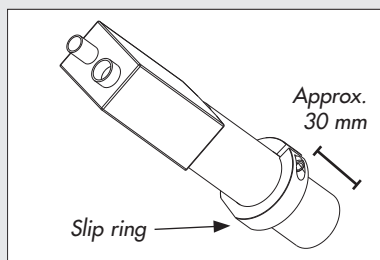

Figure 4.1 The optical tube should extend approximately 30 mm below the slip ring.
1. Locate the optical tube and the 9/64 Allen wrench in the accessories kit. Using the Allen wrench, loosen the slip ring (refer to Figure 4.1). With the threaded end of the optical tube pointing up, slide the optical tube through the slip ring so that approximately 30 mm extends below.